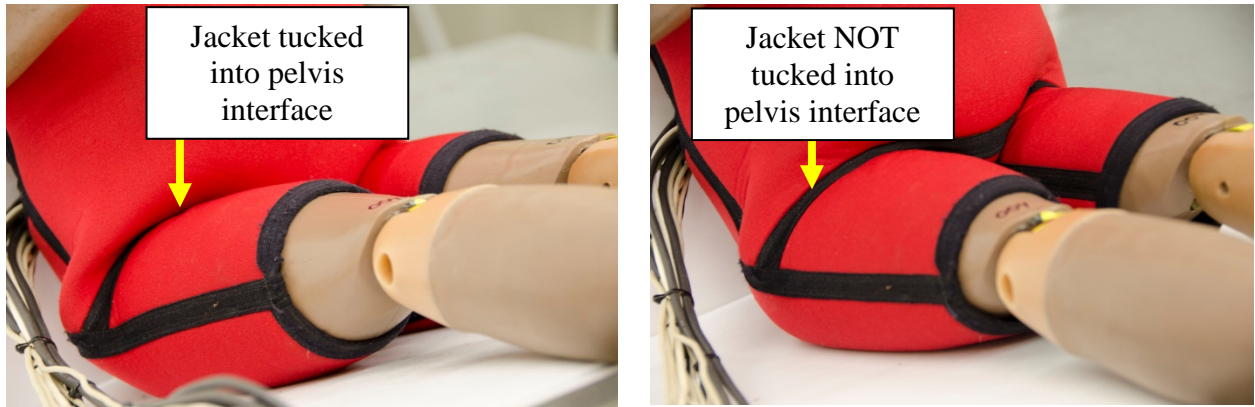

Figure 124. Ensure that jacket is not tucked into pelvis/femur interface
- Be sure the bolts on the positioning tool are correctly seated into the knee (Figure 124).